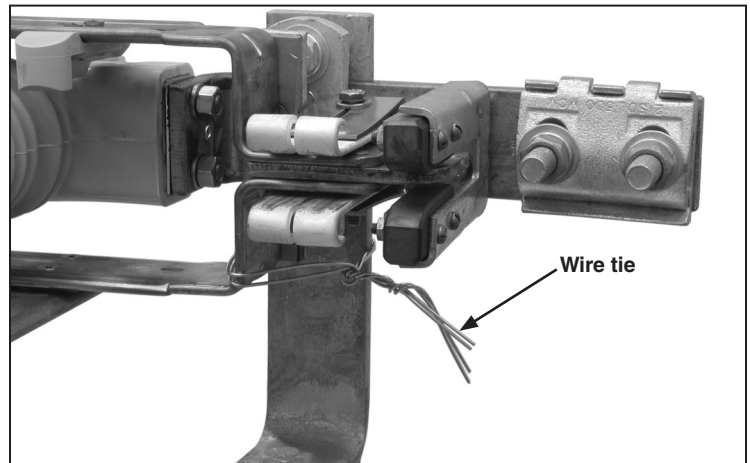

Figure 31. Remove the tie at the stationary main contact assembly.
STEP 27. Remove the ties holding the switch blades to their stationary main contact assemblies. See Figure 31.